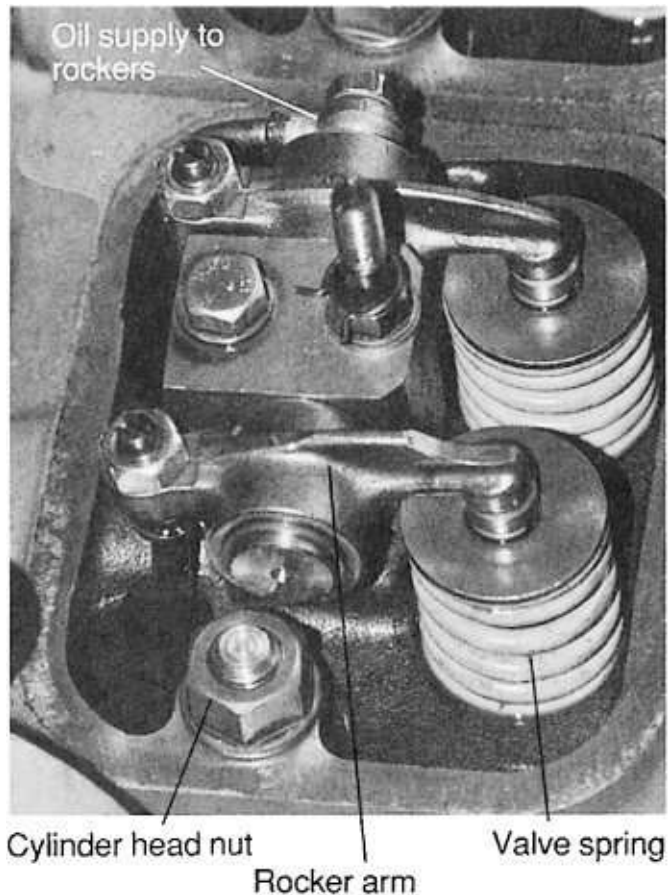

FIGURE 7-6. *An engine with the valve cover removed. This engine has individual cylinder blocks and heads for each cylinder.*
7. Unbolt the rocker assembly (see Figures 7-6, 7-7, and 7-8). On some engines, it comes off in one piece; on others, each cylinder has a separate unit. Take out the push rods (if present) and lay them down in order (perhaps labeled, as with the injector lines).